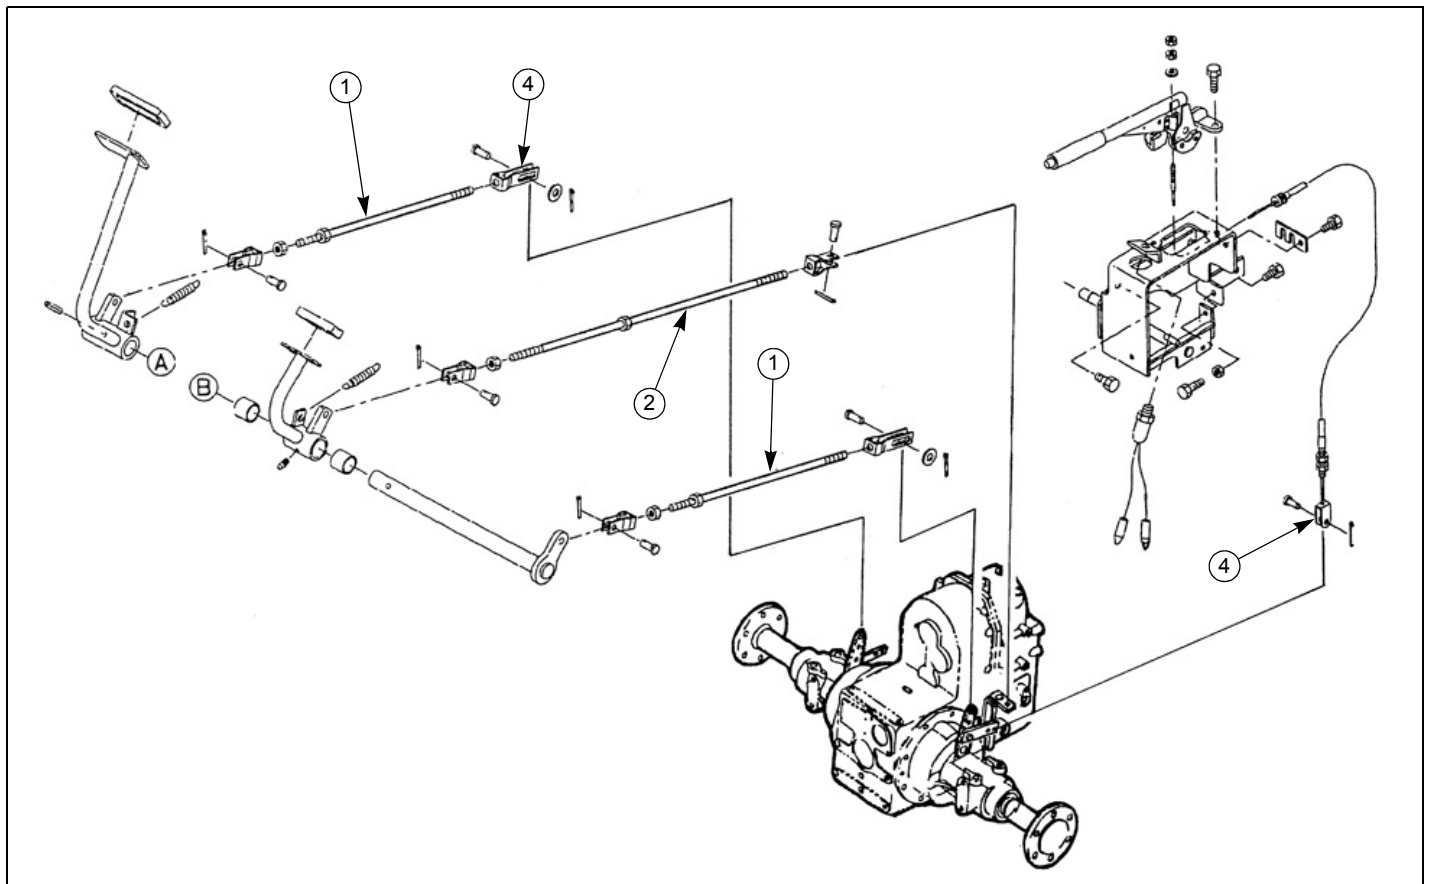

Figure 2-13
9. Disconnect the parking brake wire ④ from both brake levers. Figure 2-13
10. Remove the split pin, washer and pin, and disconnect the brake rod ① from both brake levers. Figure 2-13
11. Remove the split pin, pin, and disconnect the differential lock control rod ② from the differential lock lever. Figure 2-13.